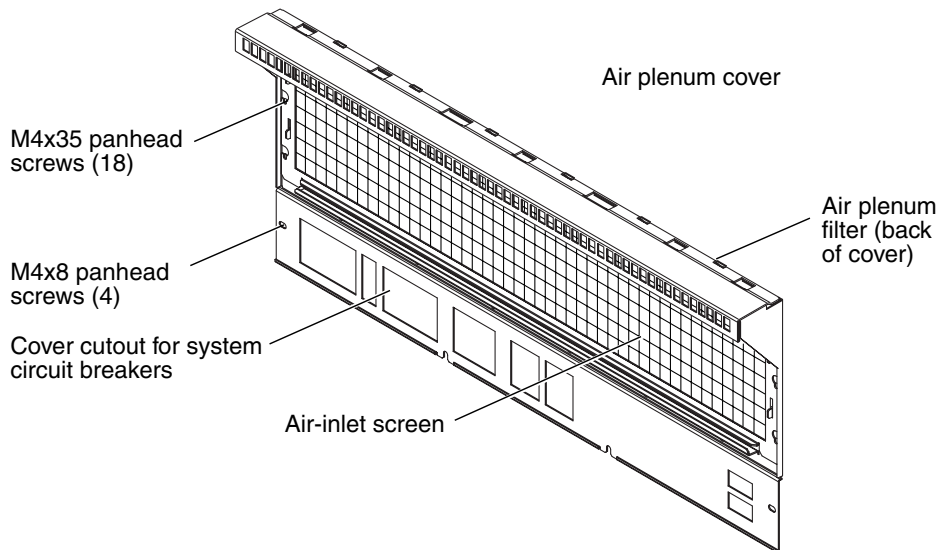

FIGURE 3-1 Air-Plenum Cover
3. Remove the air-plenum cover by removing the eighteen (18) M4x35 panhead screws from the top, sides, and bottom of the air-inlet screen (FIGURE 3-1).
4. Remove the four (4) M4x8 panhead screws from the side and bottom of the air plenum panel, at the circuit breaker level.